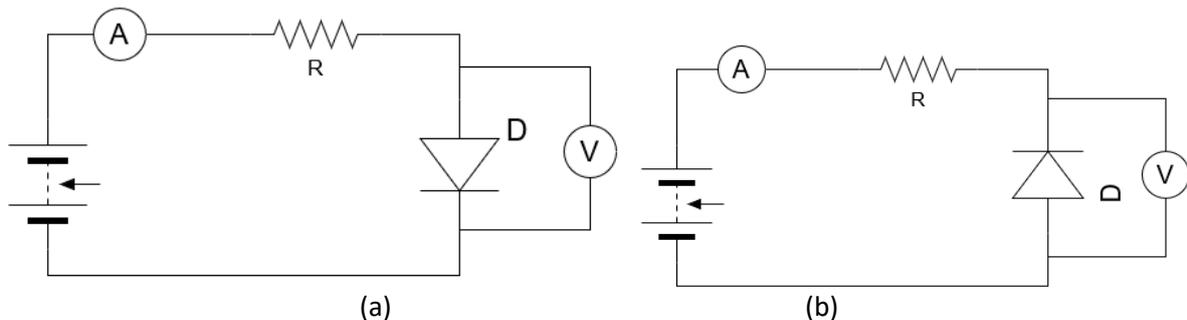

Figure 4 Circuit for finding IV characteristics of a diode
6. Identify in which of the circuit in figure 4 is the diode forward biased and reverse biased.